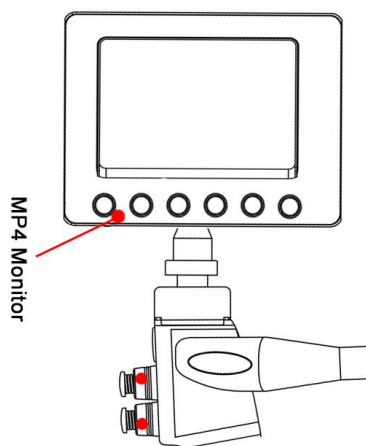

Figure 3.2
2. Connect 3.5" MP4 monitor to the endoscopes according to Figure 3.2.